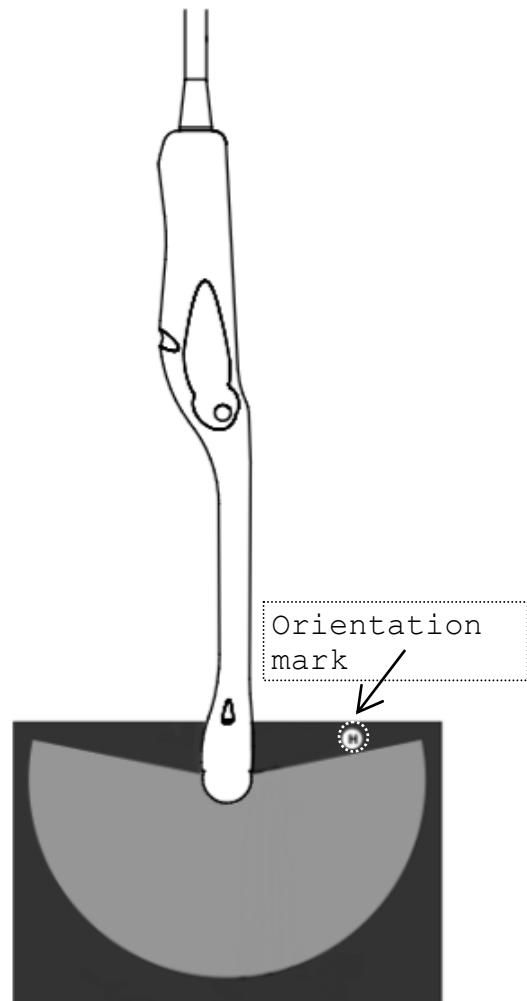

Fig.2 Relationship between the direction of the probe and the Right-left Orientation Mark Direction
- 3) Connect the probe to the ultrasound diagnostic scanner and operate the scanner and adjust the image according to the instructions given in the operation manual for the ultrasound diagnostic scanner. The relationship between the direction of the probe and the right-left orientation mark on the image is shown in Fig. 2.